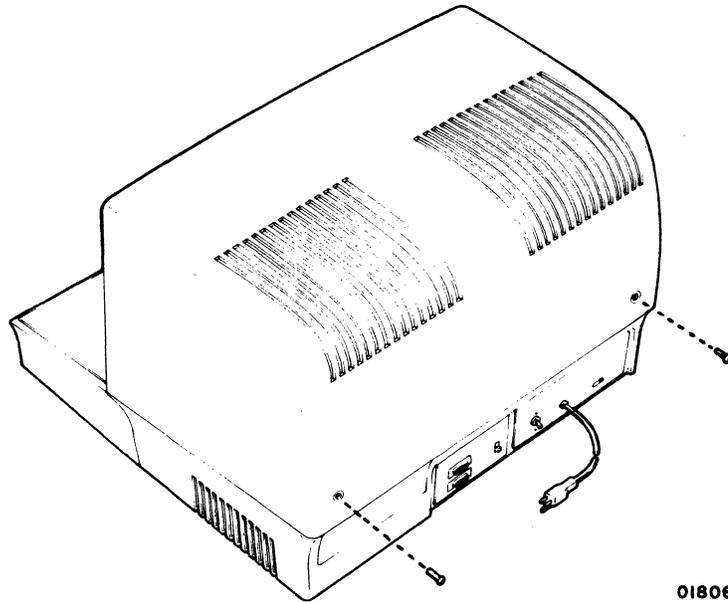

Figure A-6. Cabinet Hood Removal
- 3) Remove cabinet hood of display module by unscrewing two mounting screws at rear of hood, figure A-6, and sliding the hood back and lifting it up.